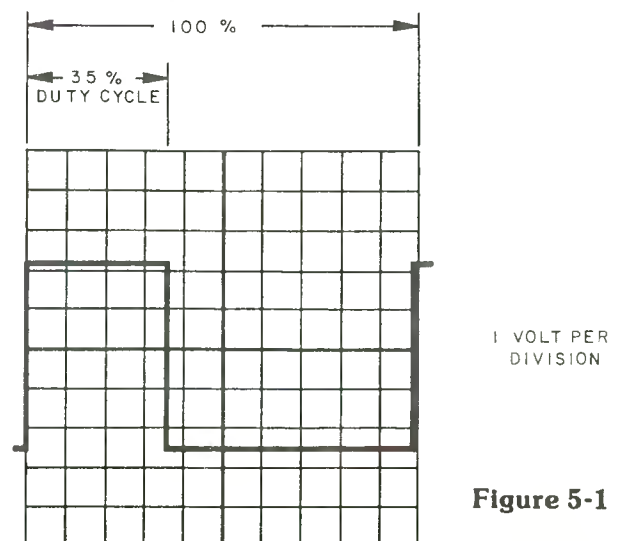

Figure 5-1
- Adjust R330 so that a 35% duty cycle is observed on the scope display. This adjustment must be made with a tape cartridge running in the transport. See Figure 5-1. Slight variations in the duty cycle will be observed as the controller compensates for rotational non-linearities of the motor.